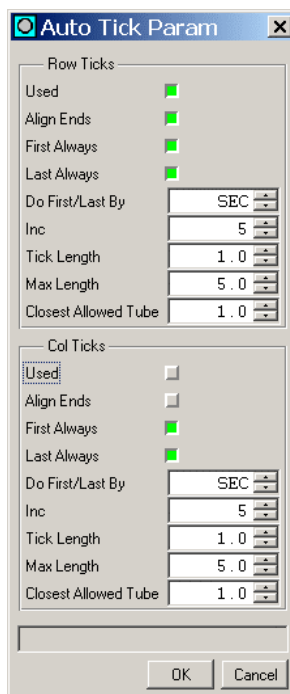

Figure 7-14. Auto Tick Param Dialog
- STEP 8:** In the *Col Ticks* section of the *Auto Tick Param* dialog, disable (gray) *Used*. The remaining settings in this section may be disregarded. The *Auto Tick Param* dialog should now look like Figure 7-14.